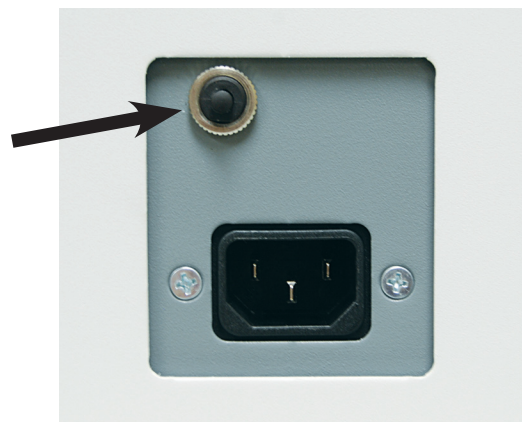

Figure 7
5. Reinstall cover and press the black reset button (figure 7).
1. Press the black circuit breaker button (Fig. 7) near the power cord inlet to reset the breaker.